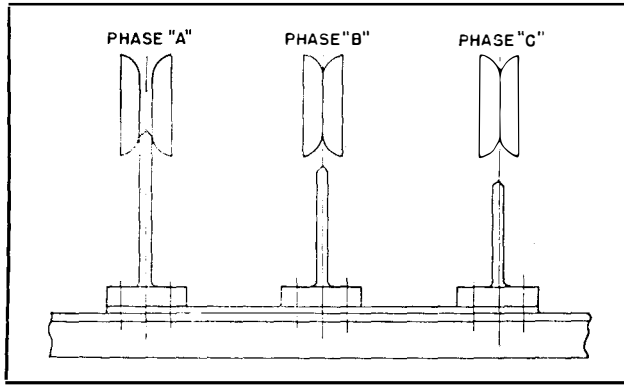
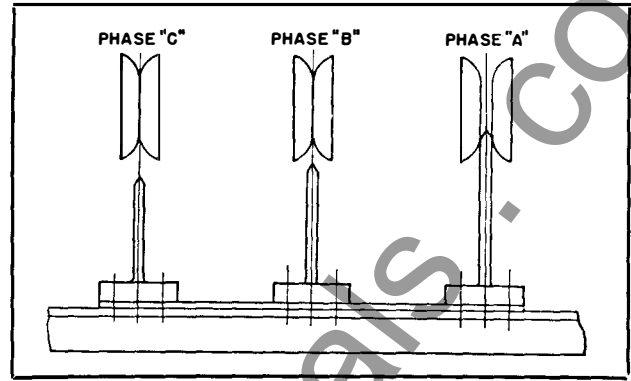
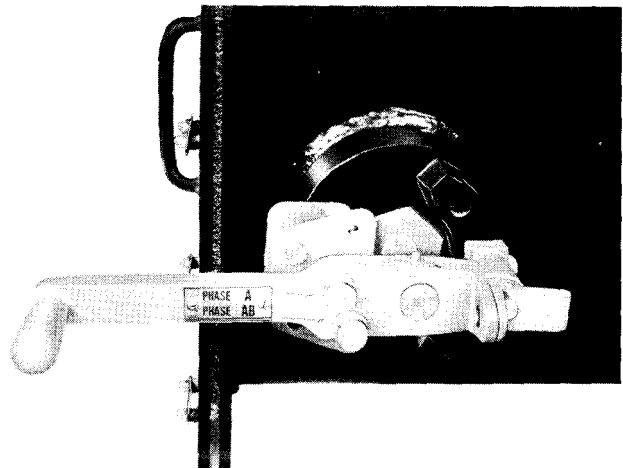

FIG. 4. Standard Phasing Sequence A-B-C, Left to Right, Facing Switch
FIG. 5. Special Phasing Sequence A-B-C, Right to Left, Facing Switch
FIG. 6. Side View of Switch in Transformer Position
**Phasing-Out Contacts.** On the three-position disconnect and grounding switch, phasing-out contacts may be provided, if specified on the order, so that one phase of the cable can be grounded at a time. Buttons are provided on the operating handle for this operation. Sequence of grounding may be either left to right, per Fig. 4, or right to left, per Fig. 5.
1. When pin marked A on the handle (See Fig. 6) stops the movement, the contacts are engaged for phase A as shown in Figs. 4 and 5, Phases B and C are open-circuited. Check for circuit through phase A with test voltage, then tag.